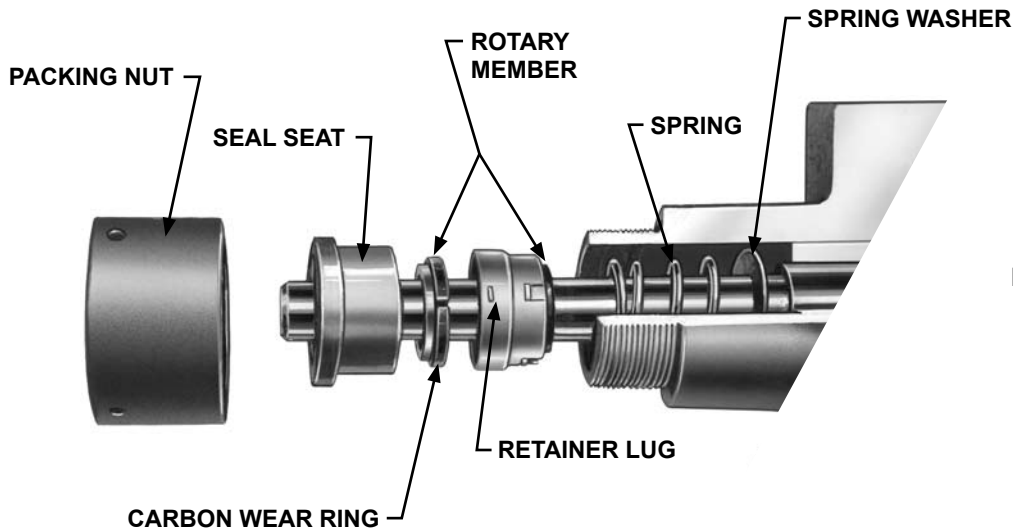

FIGURE 5
4. When reassembling a mechanically sealed pump, place the spring washer and spring on the shaft, **see Figure 5, Page 4**. Coat the shaft and the inside of the rubber bellows of the seal rotary member with light oil. Slide the rotary member part way down the shaft.